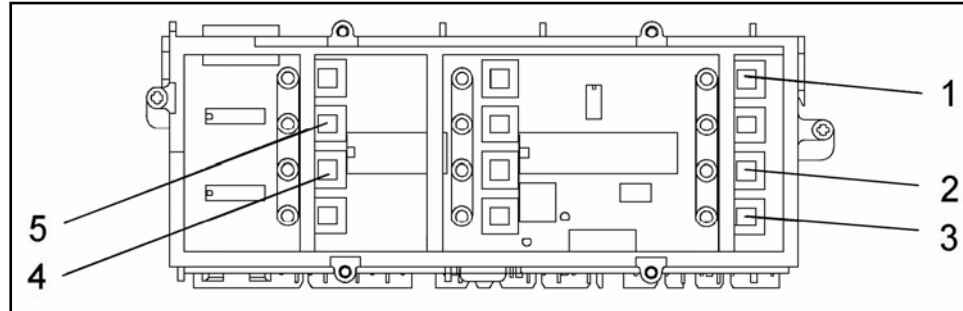

Figure 3-2: Electronic EPW561 With Fascia Removed
3.3.1 Control Indicators (Figure 3-2)